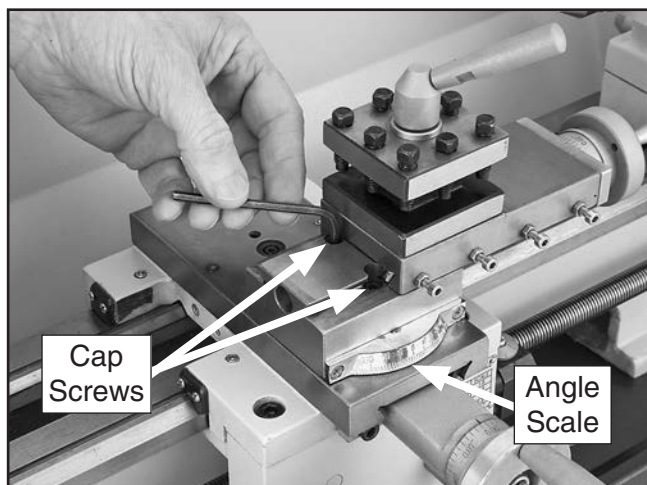

Figure 49. Compound rest angle adjustments.
1. Loosen cap screws shown in **Figure 49**.
Use this handwheel to move the cutting tool linearly along the set angle of the compound rest. Set the compound rest angle by hand-rotating it and securing it with the two cap screws (see **Figure 49** on **Page 44**). The compound rest has an indirect-read graduated dial.